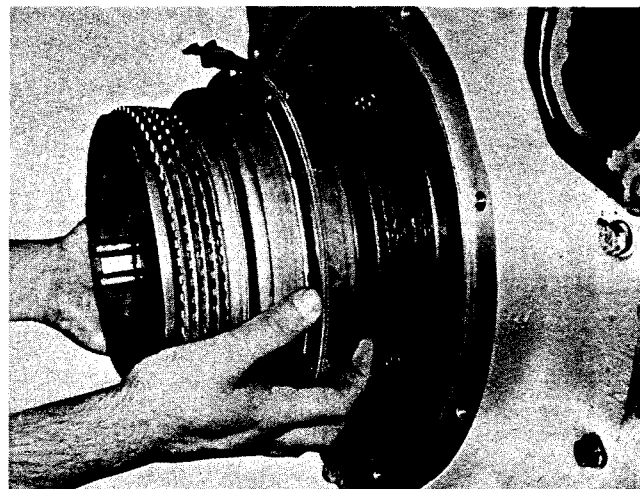

Fig. 5-3, (V22001). Removing clutch assembly
5. Lift off clutch assembly, Fig. 5-3.